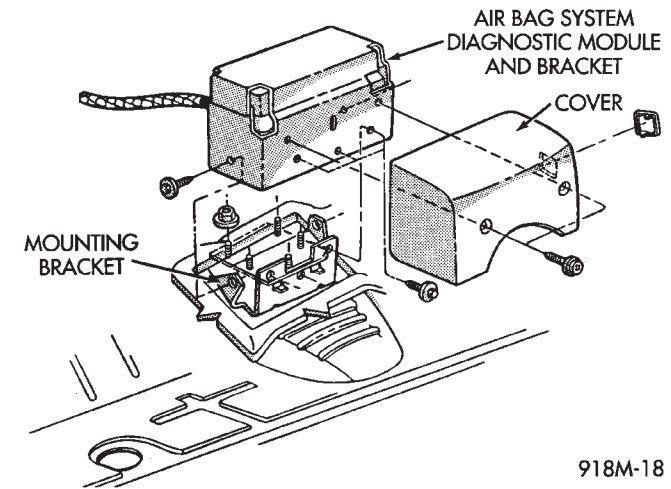

Fig. 8 Air Bag System Diagnostic Module
- (1) Disconnect battery negative cable, and isolate cable.
- (2) Remove forward console or cover as necessary (Fig. 8 and 9).